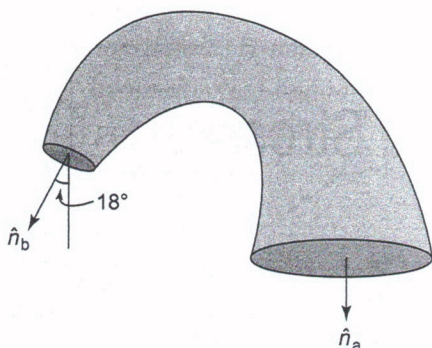

Figure 3.43
46. Evaluate the convective term of the Reynolds transport theorem for the 162-degree bend-reducing fitting shown in Figure 3.43. The flow is into the wider cross section.